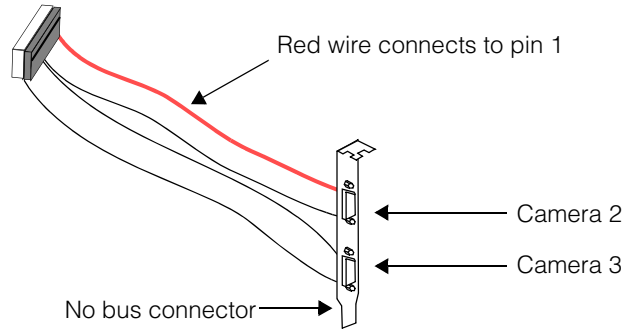

Figure 5. 8100 camera port expansion panel (P/N 300-0177)
9. If you are using a third and fourth camera, attach the camera port expansion panel (P/N 300-0177) to the PC's back panel in an unused bus slot position. Figure 5 shows the camera port expansion panel.